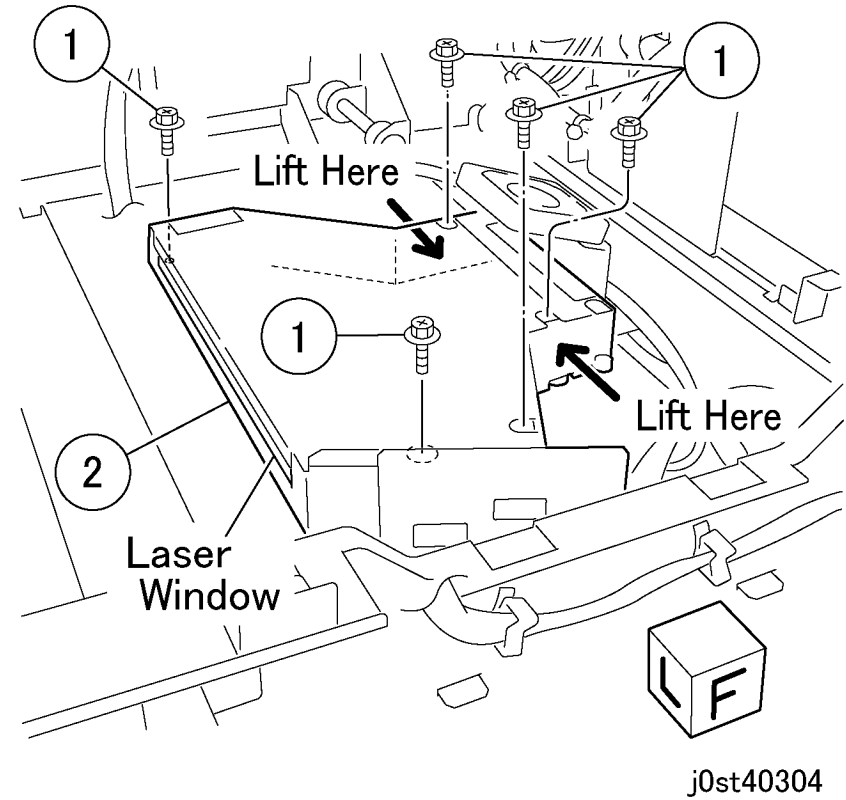

Figure 5 Removing the ROS Unit (j0st40304)
7. Remove the ROS Unit. (Figure 5)